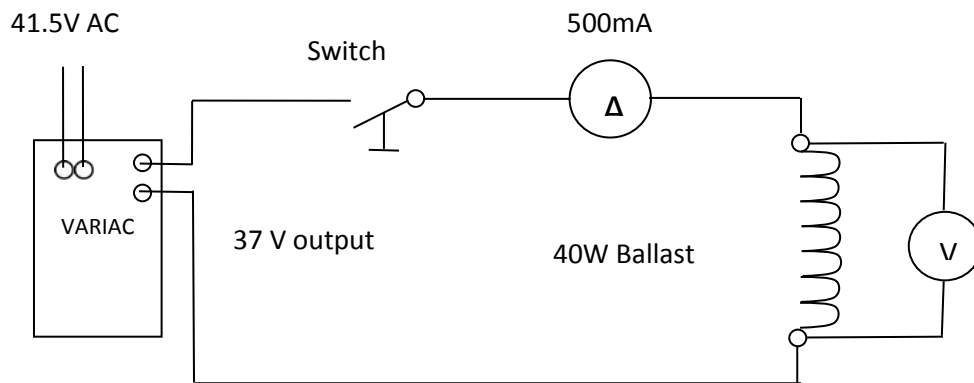

Figure 3
7. Now reconnect the same circuit and connect to a variable **AC SUPPLY** as shown below in figure 3. Ensure the voltage is set to zero.